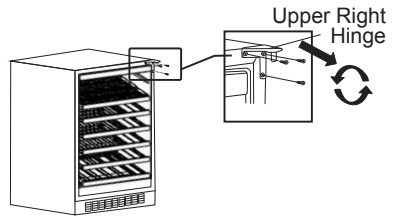

Figure 3
3. Remove the three screws that hold the upper right hinge to the top of the cabinet. (See Figure 3.)